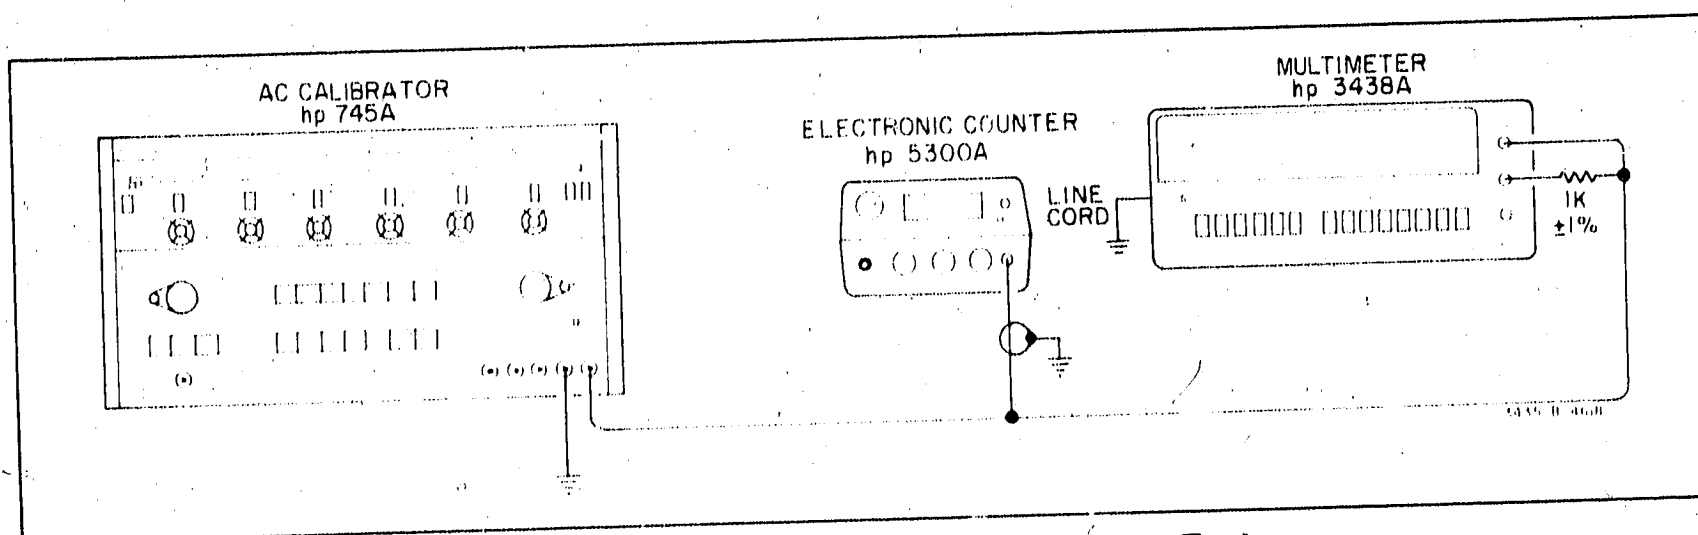

Figure 4-8. AC Common-Mode Rejection Test.
d. Connect the AC Calibrator between the Multimeter V- Ω terminal (with the 1 K resistor still in place) and power line ground as shown in Figure 4-8.